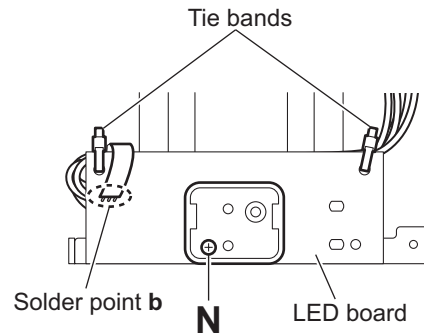

Fig.13
3.4.9 Removing the LED board (See Fig.13)